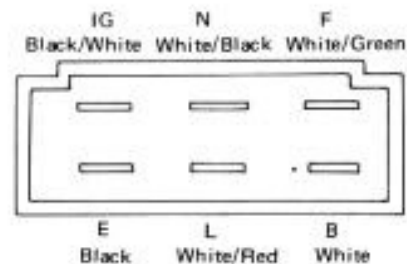

Fig. 10-19
- Open circuit in the line to "N" or "B" terminal of the regulator unit. (Refer to Fig. 10-19)
(2) Continuity test on field coil